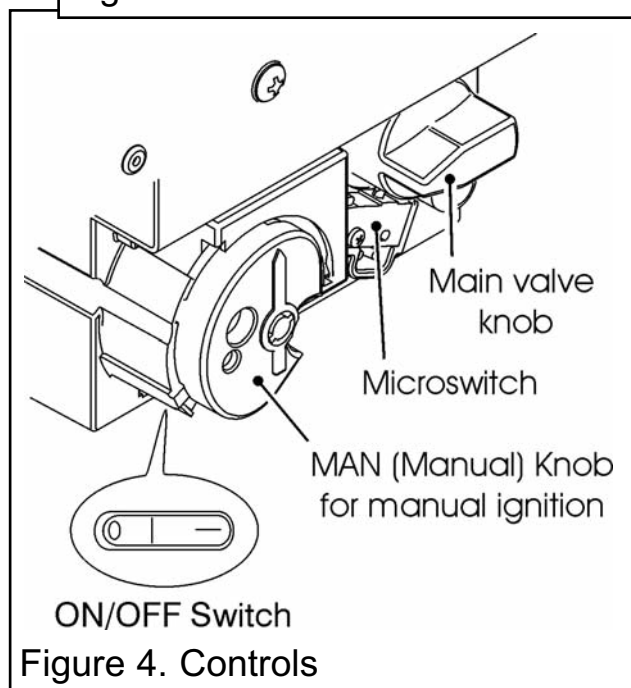

Figure 4. Controls
2. The 'main valve knob' is the knob on the right hand side (See figure 4). Turn this knob to the 'OFF', fully clockwise position .
3. The 'manual knob' is the knob on the left hand side (See figure 4). Turn this knob to the 'OFF', fully clockwise  position.
5. Wait five (5) minutes to clear out any gas. Then smell for gas, including near the floor. If you smell gas STOP! and follow the safety information below.
7. With the 'manual' knob in 'MAN' position a manual pilot valve operator is accessible (See figures 4 & 5).
- Fully push down the manual pilot valve operator using the end of a pencil or similar and hold in, to start pilot gas flow. Immediately light the pilot with a match, while continuing to hold in the manual pilot valve operator for about ten (10) seconds after the pilot is lit. Release manual pilot valve operator. If pilot does not stay lit, repeat steps 2 through 7.